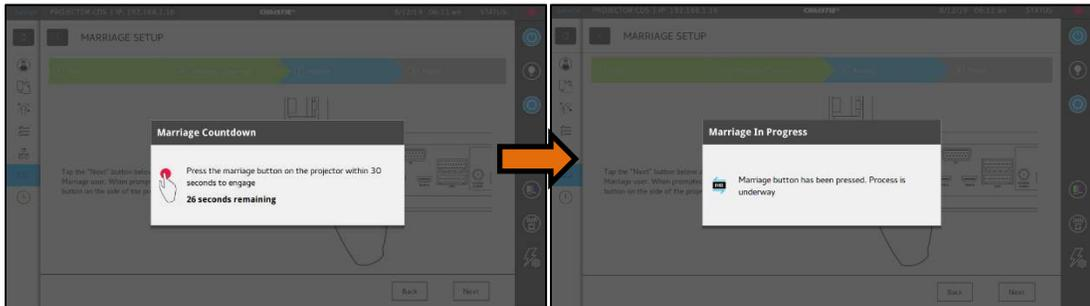

Figure 32: Press Marriage Button on Projector
8. After logging in, a pop-up message will be displayed to press the **MARRIAGE** button on the operator panel of the Projector (as shown in **Figure 32**).